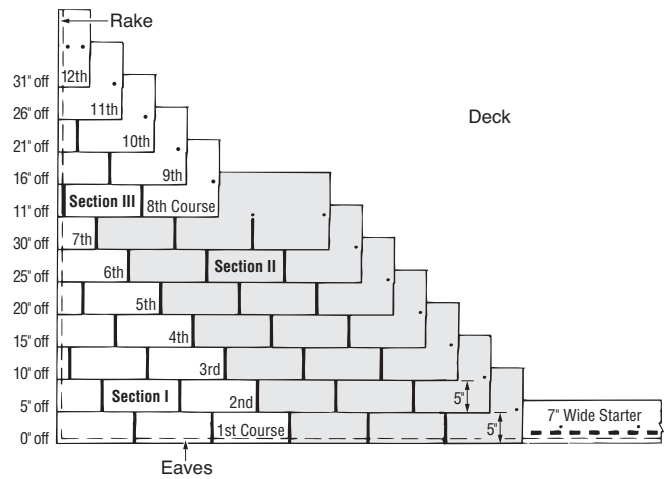

Figure 13-9: Five Off, Twelve Up.
1. Start the first course with a full shingle at the lower left corner of the roof. Make the tabs flush with the starter course and be sure to use four fasteners in each shingle (Figure 13-9).
**"SECTION II" SHINGLES:** All "Section II" shingles are left uncut. These shingles are to be butted-up against the "Section I" shingles that started courses one through seven. Fasten all shingles in the standard fashion (Figure 13-9).
1. Begin "Section III" in the eighth course with a shingle having 11" cut off its left end. Install the 25" piece above the seventh-course shingles, making it flush with the left edge of the seventh-course shingle and leaving 5" of the seventh course exposed. Fasten at the two standard locations, plus 1  $\frac{1}{4}$ " in from the left edge (Figure 13-9).
- The next four courses, up to and including the twelfth course, will start with a shingle 5" shorter than the first shingle of the course just below it. This means that the first shingle for the ninth, tenth, eleventh and twelfth courses will be 20", 15", 10" and 5" long, respectively. Study the diagram in *Figure 13-9* if you're not sure what to do. Remember to expose each course 5" to the weather, and fasten at the standard locations and 1 1/4" in from each edge. Complete courses across the roof with full shingles.